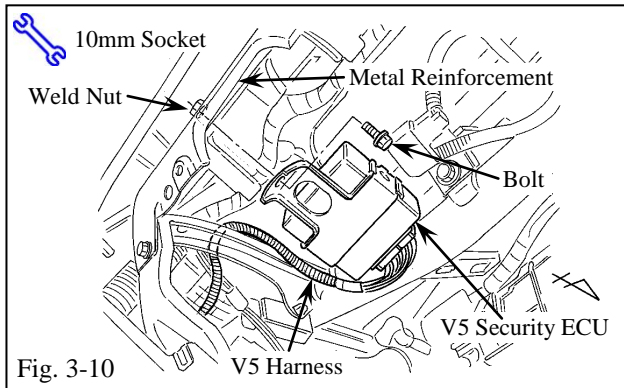

Fig. 3-10
- (j) Using the supplied bolt, secure the V5 security ECU to the metal reinforcement. (Fig. 3-10)
(1) Secure the V5 security ECU as shown.